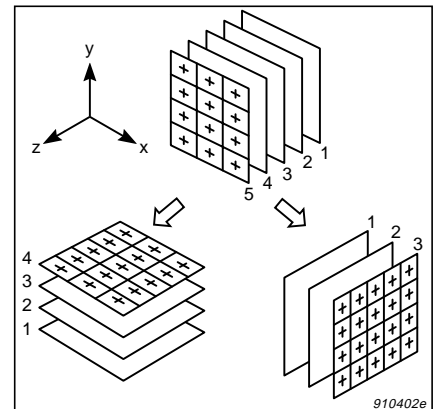

Fig.13 Re-grouping multispectrum data to form multispectra in other planes
Data from a set of spatial multispectra measured in one plane can be re-grouped to appear as a multispectra measured in another plane. For example, the data from five multispectra of 4 rows (R)×3 columns (C) measured in the xy-plane can be re-grouped to create four 5R×3C multispectra in the xz-plane, or three 4R×5C multispectra in the yz-plane (see Fig. 13).